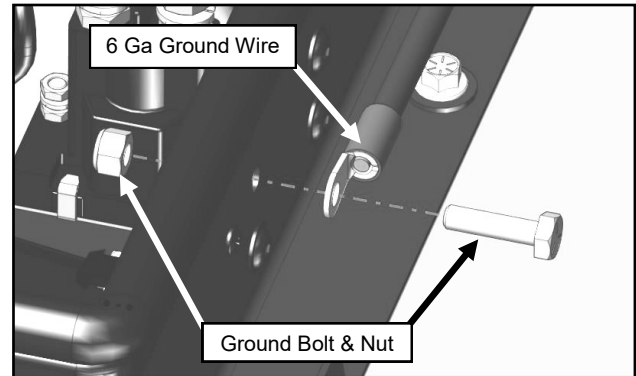

Fig. 3.6 (Ground Install)
- 3.6 Remove and discard the bolt that secures the ground wires to the base of the solenoid. Figure 3.6.
- 3.7 Route the black 6 GA wire w/ 1/4" ring terminal from the converter assembly along the side of the A/C case and install the supplied 1/4-20 x 1" bolt through the ring terminal and through the A/C case. Be sure to re-attach the ground wires on the inside of the case. Leave the nut loose for now. Figure 3.6.